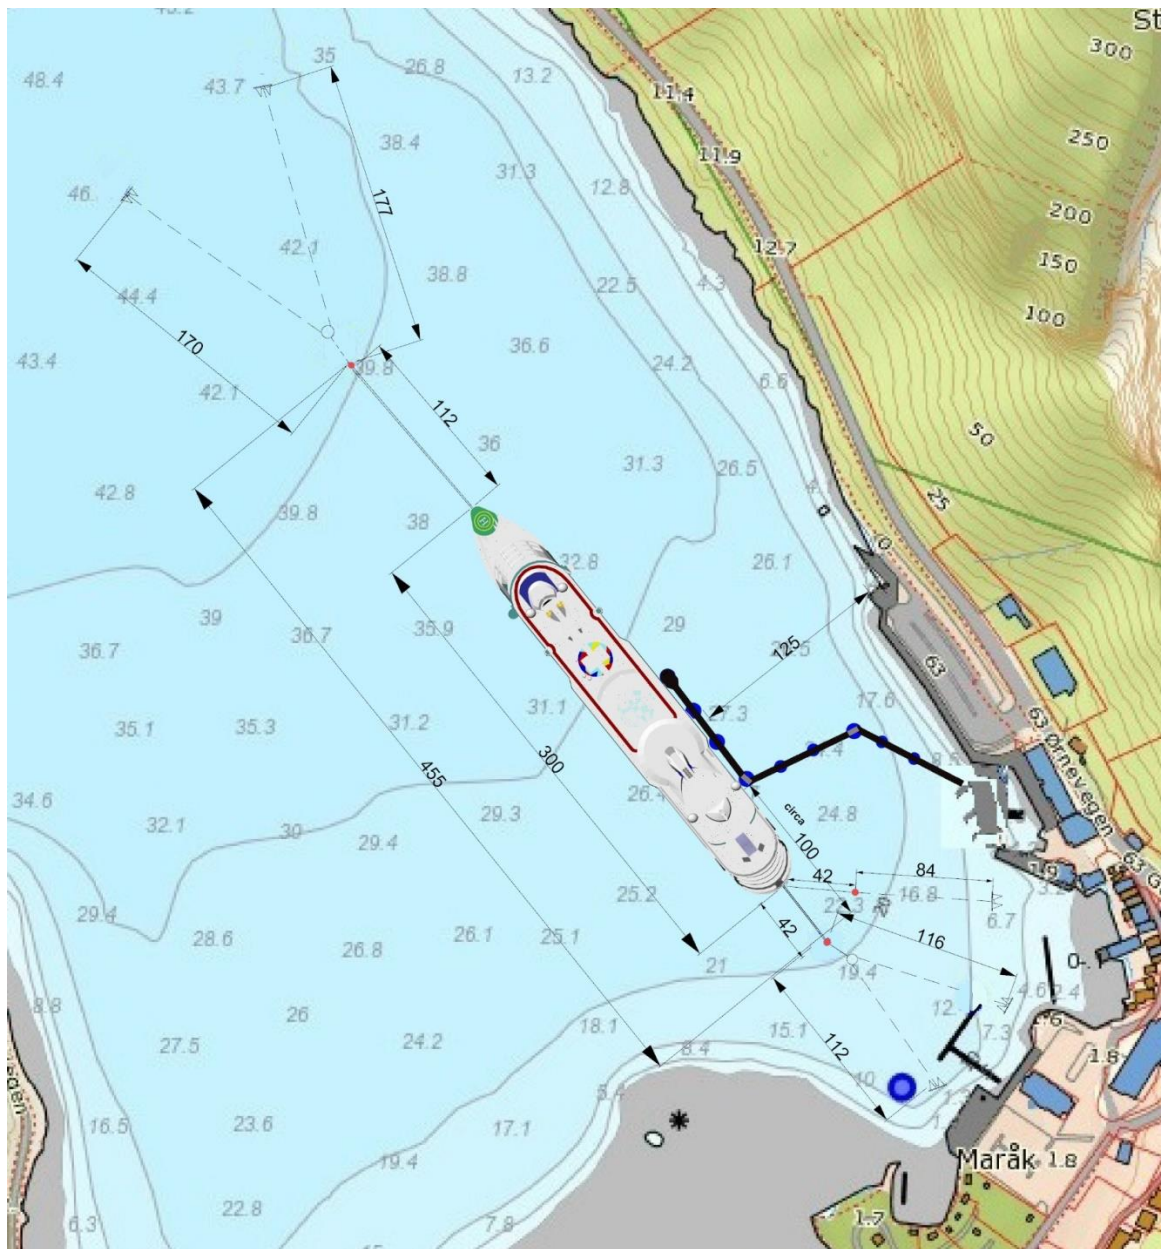

Figure 1
Buoy 3 is dimensioned for 300tonn brake load, but only in the direction as indicated (figure 1)
d) The anchor/buoy installation can only allow pull loads from the ship within the mooring area (see figure 1 – mooring area limited between the buoys). Pull forces from the ship on the buoys - outside of the mooring area will cause damage on the construction.